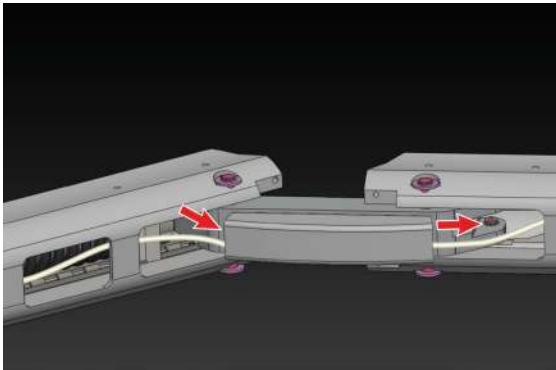

Figure 115
- Keeping the vertical arm in vertical position and horizontal arm in horizontal position, route the cable inside the horizontal arm such a way that the cable is pushed 20mm (approx) inside the outer cover as shown in the Figure 115. Make sure that the cables are inserted in between the outer cover and the inner plastic sheet (not visible in picture).